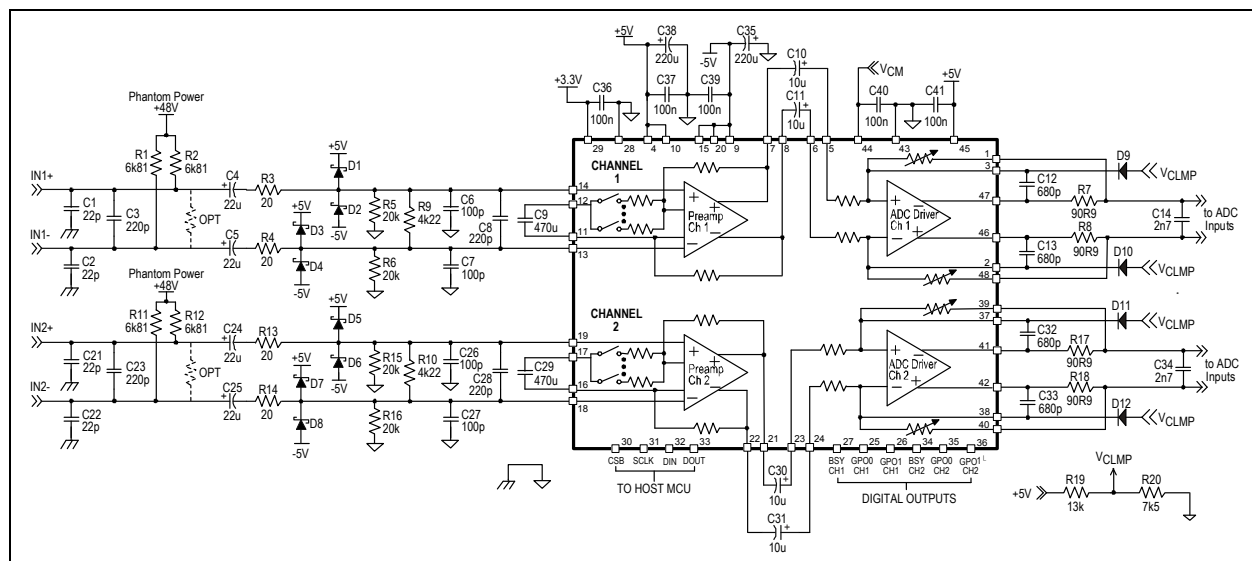

Figure 17. A typical bipolar-supply THAT 626x application circuit.
Figure 17 is a typical 626x application circuit utilizing bipolar power supply rails. In this section, we discuss channel 1 in detail. However, all of the comments apply to the analogous components in channel 2.
The coupling capacitor (C9 in Figure 17, or C_G in Figure 12) limits DC gain in the preamplifier to unity, regardless of the differential audio gain setting. The on-chip gain-setting R_G resistors in series with these capacitors vary with gain, which causes the cutoff frequency of the resulting high-pass filter also to vary with gain. This filter reaches its highest frequency at the minimum R_G (the highest gain), which is about $45\ \Omega$ (see Table 2). Hence, the highest cut-off frequency, with the $470\ \mu\text{F}$ value shown in Figure 17 is $\sim 7.5\ \text{Hz}$. Larger values will scale this frequency down proportionately. Since these capacitors, which are often physically large and stick up from the PCB, are effectively in series with the preamplifiers' inputs, they can serve as antennae to collect interfering signals. Take care to minimize possible sources of interference nearby that may be picked up by these large coupling capacitors.
The 626x ADC driver inputs (pins DI+_ CH_x and DI-_ CH_x) are capable of accommodating the full differential and common-mode signal range at the pre-amp outputs. However, the ADC driver’s fully-differential opamp inputs (brought out on pins CFB+_ CH_x and CFB-_ CH_x) have a common-mode input range of 1V to +5V. If this common-mode range is exceeded in the negative direction, the opamp’s inputs and outputs can get stuck close to ground. Diodes D9 and D10 in Figure 17 clamp the minimum voltage at the ADC driver opamp’s inputs to one diode drop below the voltage V_{CLMP} . For V_{CLMP} nominally +1.8V, the diodes ensure that the opamp’s inputs do not go below 1V above ground. This ensures that the ADC driver will accept the full 3.8V_P common-mode signal swing that can be present at the preamp outputs.
+5V) and ground. In Figure 17, this divider is made up of 13 k Ω and 7.5 k Ω resistors R19 and R20.
Phantom power is required for many condenser microphones. It is connected to the preamp inputs through resistors, R1 and R2, per +48V phantom power standards. THAT recommends the protection circuits as shown in Figure 17 when phantom power is included. R3 and R4 are to limit the current that flows through the preamp inputs during phantom power faults that can occur if one or both of the inputs are shorted to ground while phantom power is on. We recommend that R3 and R4 should be at least 20 Ω to limit destructive currents to under ~ 2.5 A. (Higher values provide more protection by further limiting current flow, but their additional source impedance adds noise.) The protection resistors used should be able to handle the short-term inrush current; many small surface-mount types cannot. With the values shown for C4 and C5, we recommend at least 1/4 W resistors.
Figure 17) when C4 and C5 are as shown at 22 μ F. The large 220 μ F capacitor absorbs the charge dumped by C4 and/or C5, and keeps the -5 V rail from being pulled excessively negative, which could damage the 626x. If larger values are employed for C4 and C5, then C35 and C38 should be increased proportionately.
The most common anti-aliasing filter configuration for driving audio ADCs is shown in Figure 17. Capacitors C12 ~ C14, resistors R7 and R8, and the internal feedback resistors of the ADC driver form a second-order lowpass filter. Since R7 and R8 are inside the amplifier's feedback loop, the closed-loop output impedance remains quite low inside the audio band, but they still serve to isolate the ADC driver's output from the high-frequency charging currents for the typical ADC's switched-capacitor inputs. C14 should be placed physically close to the ADC input pins.
As noted above, in the 6261, the ADC driver's internal feedback resistors vary, which will have a small effect on the overall filter response. The frequency response for the -8 dB case is -3 dB at 560 kHz and -48 dB at 6.144 MHz. The response of the -5 dB case is -3 dB at 419 kHz and -51 dB at 6.144 MHz. As with the filter shown in Figure 17, for
As shown in Figure 17, THAT recommends a 100nF capacitor to ground on all the supply rails plus the VCM reference (pin 44) for high frequency noise filtering. For best effectiveness, place each 100nF capacitor close to its associated pin in the PCB layout. For rails with multiple pins, e.g., V_{A-} and V_{A+} , only a single 100nF capacitor is needed per supply; connect the capacitors near pins 9 and 10.
- Delete clamp diodes D9 and D10 and the V_{CLMP} voltage divider R19 and R20 (from Figure 17) as these are not required for unipolar operation.
Further, the DC level of the preamplifier output is one V_{BE} below +5V Filt (thus about +4.3 V), while the ADC driver input's DC level is at V_{CM} (nominally +3.1 V). Hence, the ac-coupling capacitors between the preamp and ADC driver stages (C10 and C11) are reversed in polarity from those in Figure 17. We recommend these capacitors be rated at least 3.3 V.
Because the ADC driver V_{cm} voltage is set to +3.1V for unipolar applications, the full common-mode swing output swing from the preamp cannot force the ADC driver opamp inputs below the minimum allowable level. Hence, diodes D9 and D10 (and the associated voltage divider) as in Figure 17 are not needed when the 626x is powered by unipolar supplies.